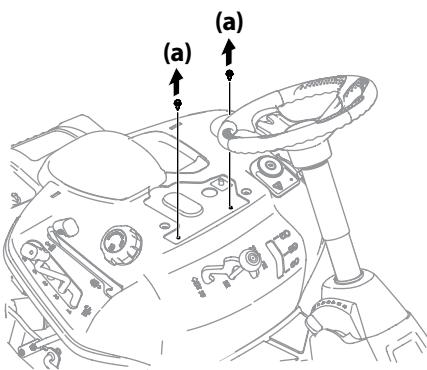

Figure 2-6
2. Remove the two self-tapping bolts (a) factory installed on the riding mower. See Figure 2-6.